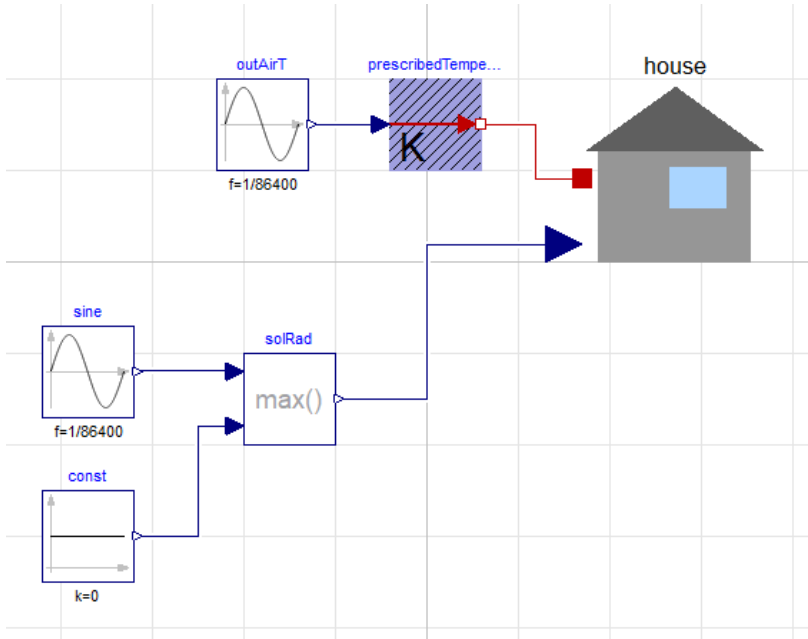

Figure 6.10: Connections in **HouseWallWin**
- Modelica.Blocks.Sources.Sine (1)
- Modelica.Blocks.Sources.Constant (1)
- Modelica.Blocks.Math.Max (1)
- 6. Connect the components according to figure 6.10 and the give to parameters in *sine* component the values according to the table below: